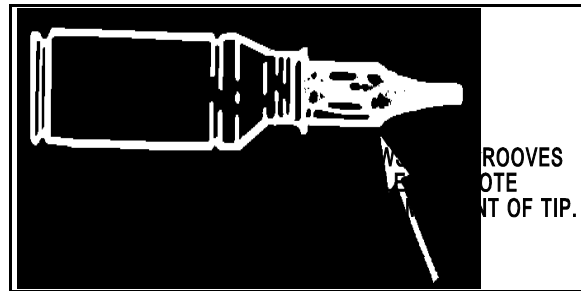

Figure 2. AP round.
b. Inspect the ammunition to ensure it is serviceable. Clean as necessary and align rounds (Figure 2).